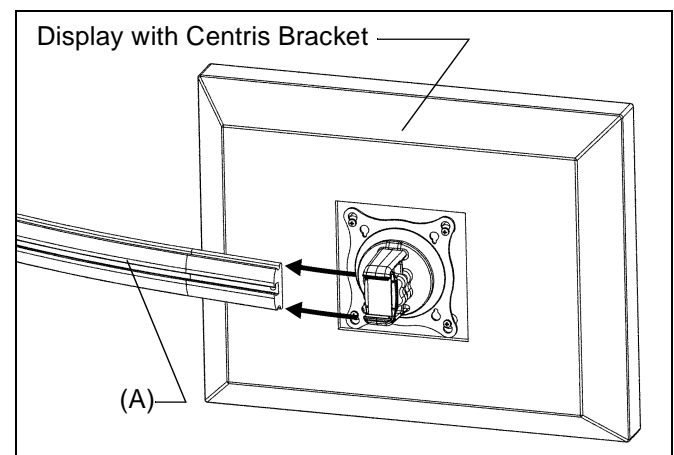

Figure 9
7. Slide display with Centris bracket onto array rail. (See Figure 9).